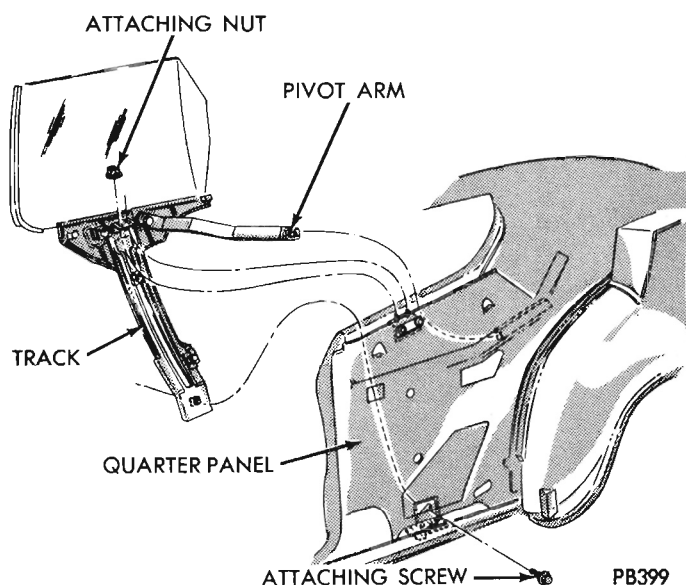

Fig. 9 - Hardtop Quarter Window Glass Replacement
- (1) Remove track upper attaching nuts from track (Fig. 9).
- (2) Remove attaching screw from lower track.
- (3) Work track, glass and pivot arm up and out of quarter panel.